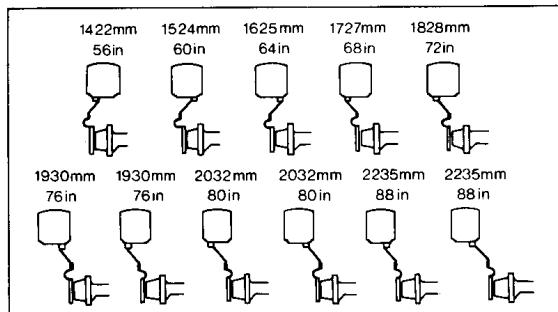

FIG. 33
1. Fig. 33. Select the required track setting.